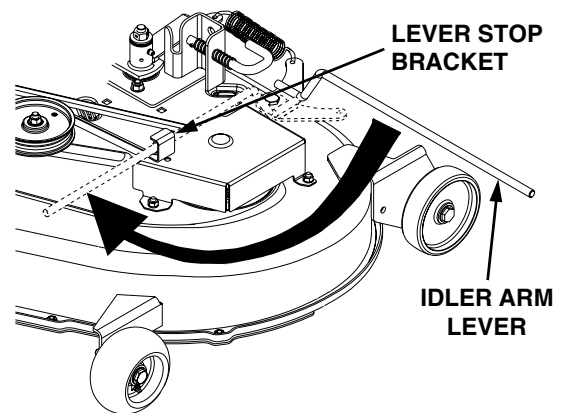

Figure 53
14. While holding the belt in position, rotate and engage the deck idler arm lever into its stop bracket to provide tension on the PTO belt (See Figure 53).